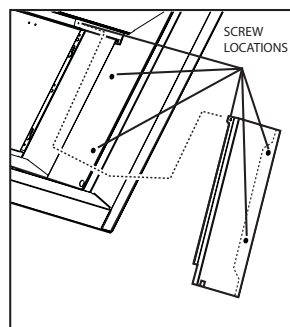

FIG. 12
7. For ES36 only: mount the filter trim bracket supplied on the right side of the hood. Check that all engage points perfectly match, then fix with 3 screws as shown in figure 12.